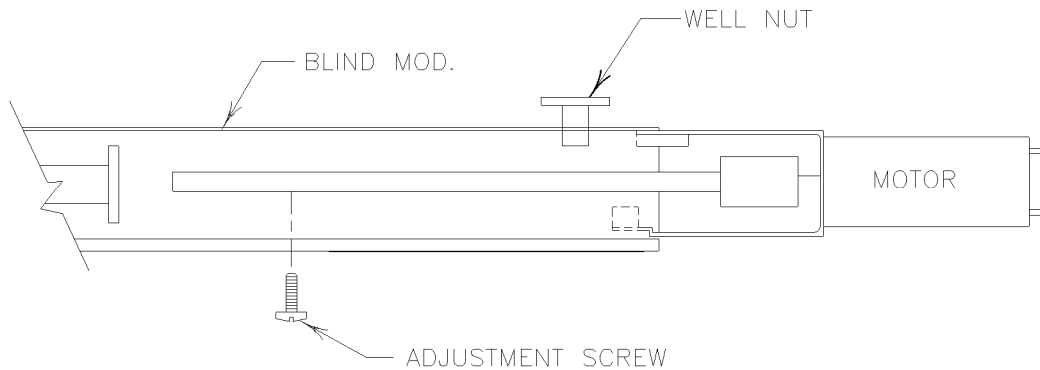

FIGURE 11/ GRAPHIC 25-23-02-991-011
- B. To remove the motor, unscrew and remove adjustment screw and well nut (if necessary) located at right hand side of blind. (See FIGURE 11/ GRAPHIC 25-23-02-991-011)